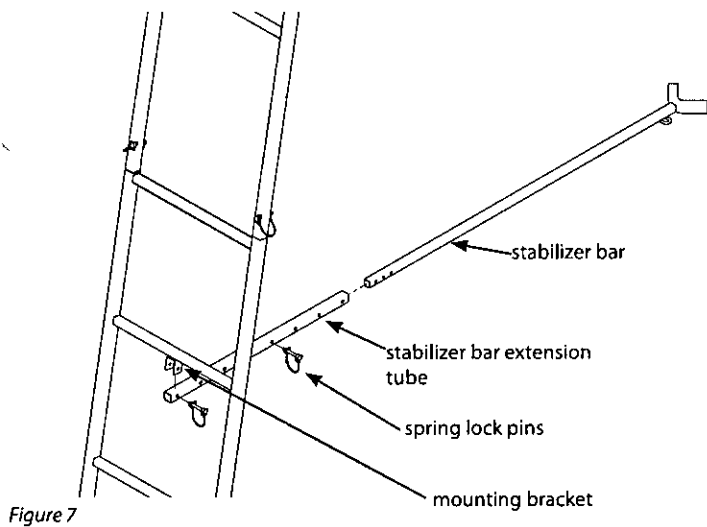

Figure 7
11. a. Attach the stabilizer bar extension tube (1ML23) to the second ladder section mounting bracket using (1) provided spring lock pin. **SEE FIGURE 7.**
- b. Slide the stabilizer bar (L17) into the extension tube and attach the two pieces together using (1) provided spring lock pin. Spring lock pin must go through both the extension tube and stabilizer bar at appropriate hole to achieve desired distance from tree. Adjustment in length may be needed when ladder is uprighted later in instructions. **SEE FIGURE 7.**